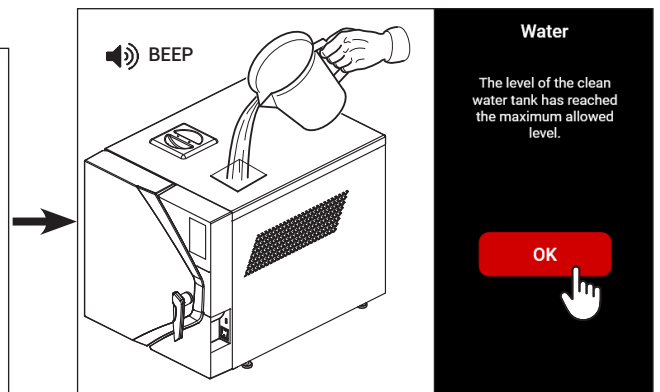

fig.14
- Remove the tank cap and fill the demineralised water tank to the maximum level. When the tank is full, the device signals it with a message on the display and an acoustic signal (Fig.14).